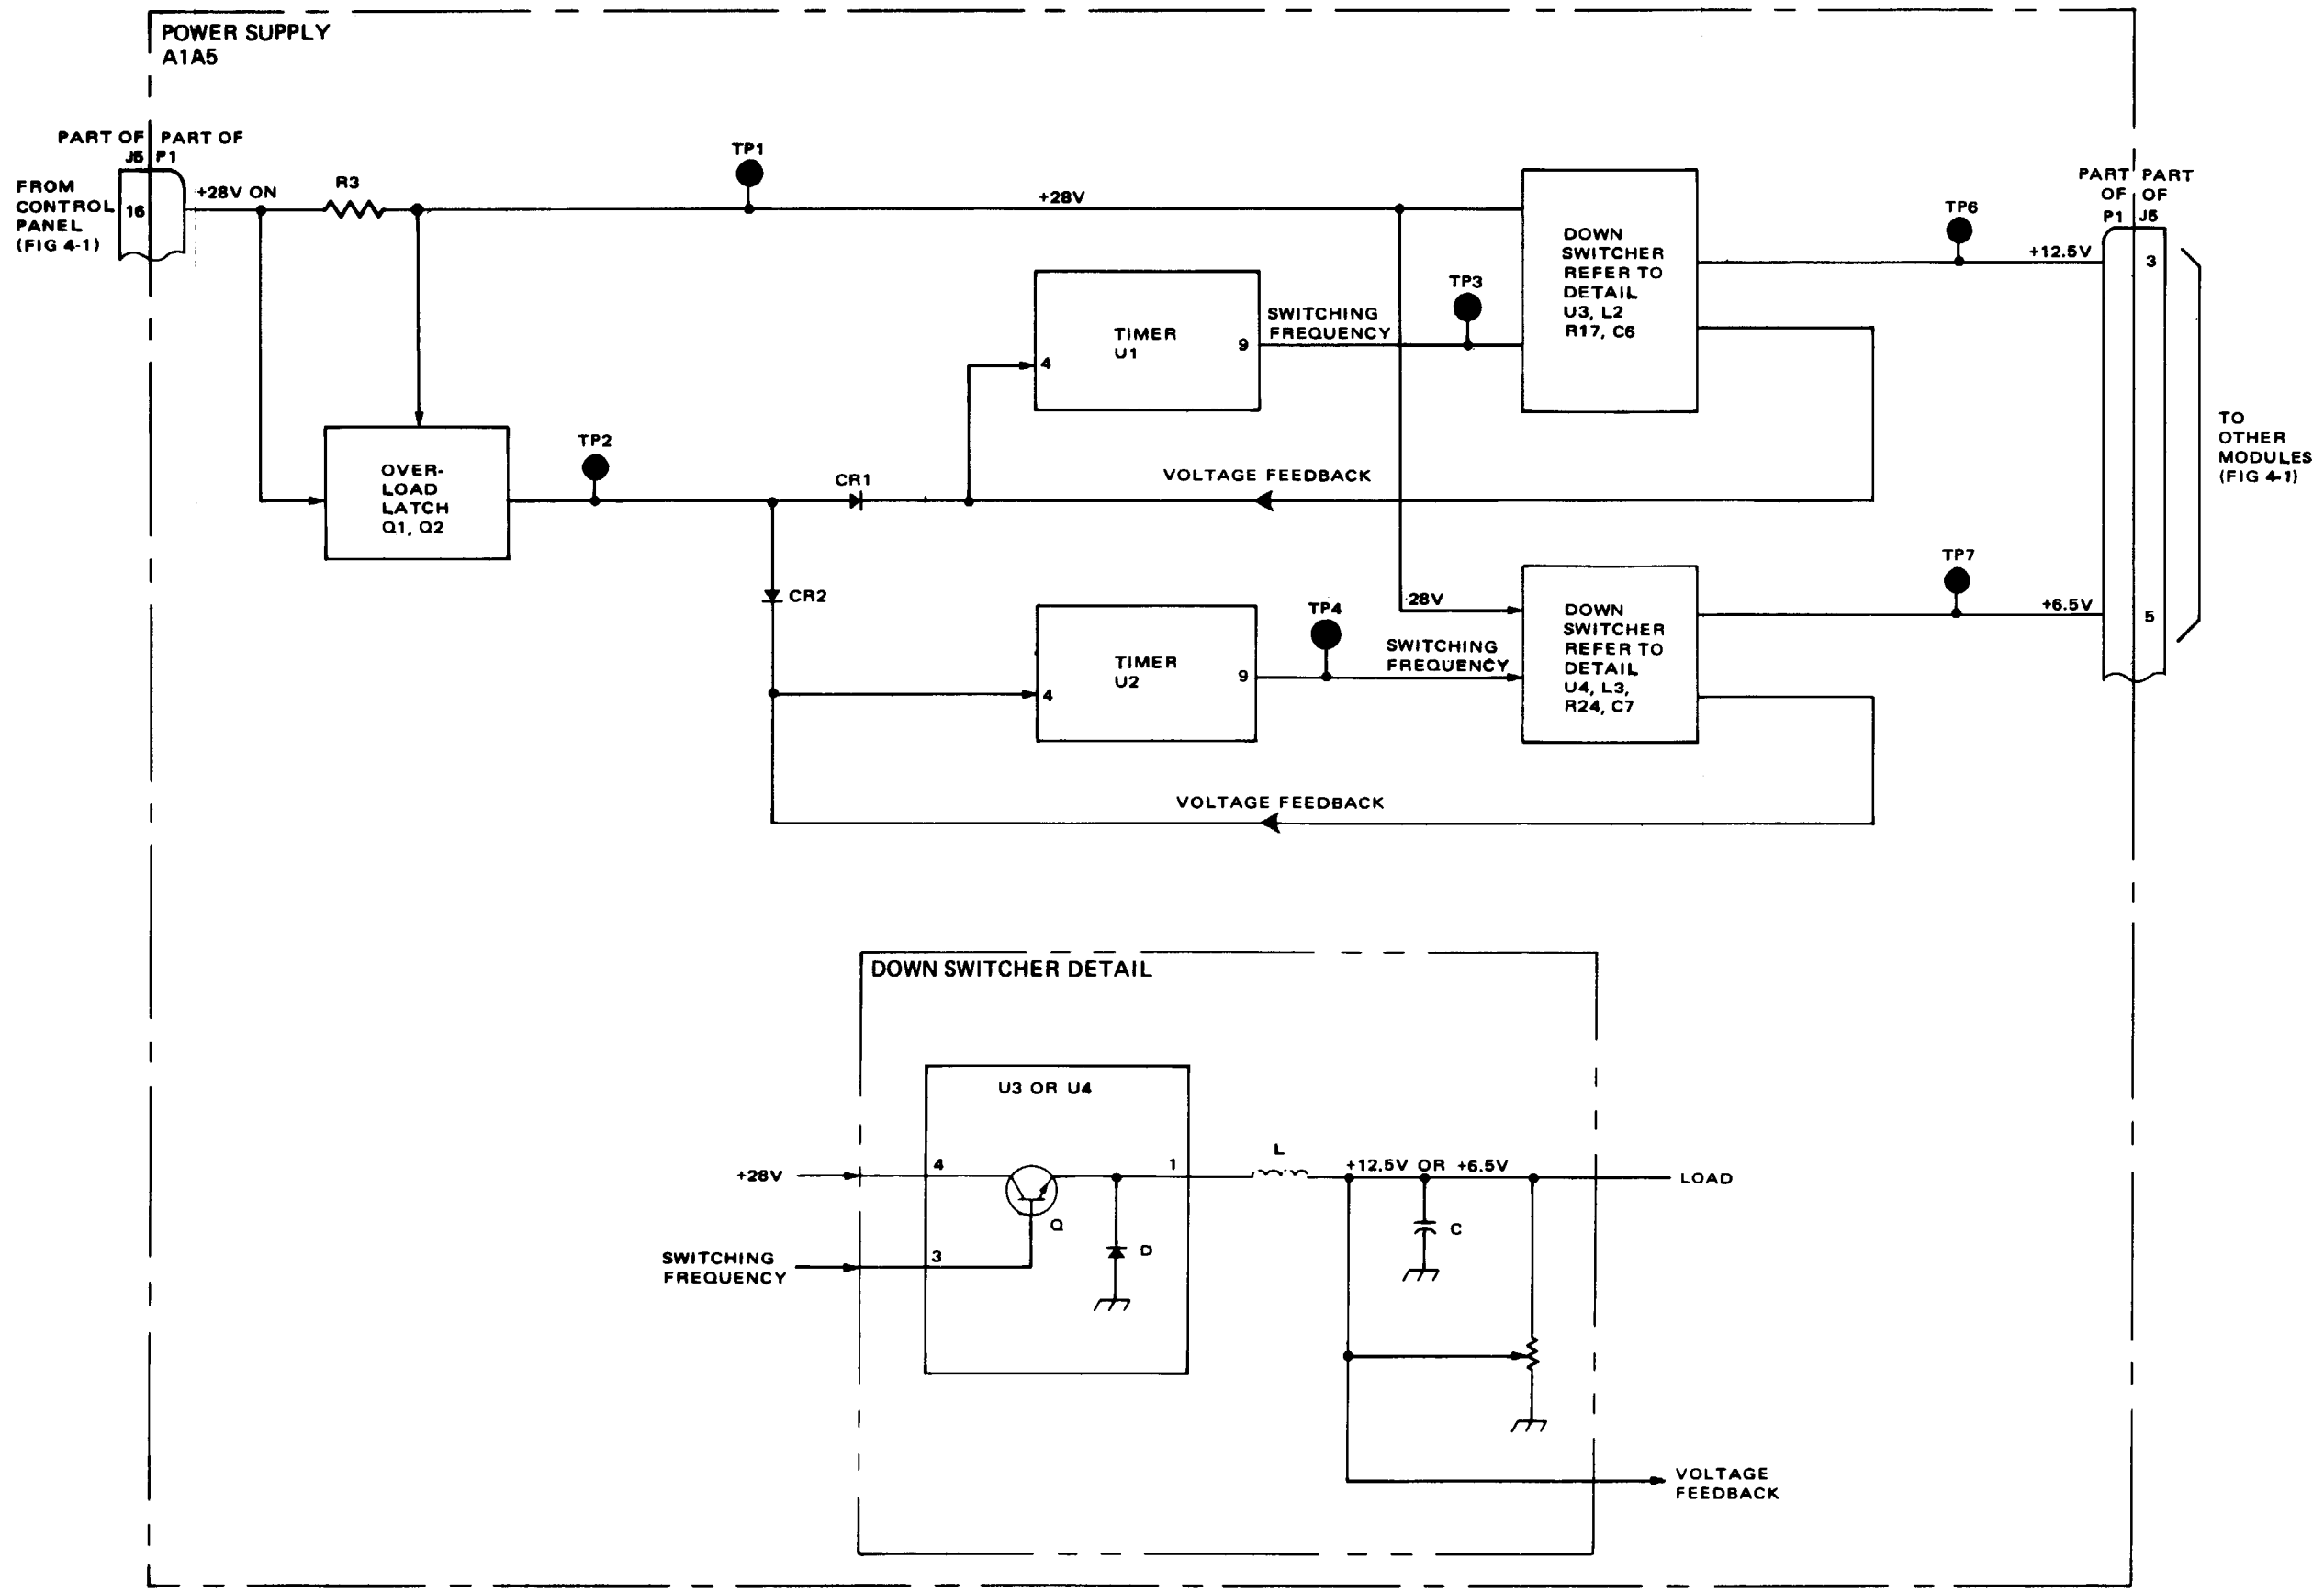

Figure 2-11. Power Supply A1A5 Functional Block Diagram
2-104. POWER SUPPLY (Figure 2-11).
2-106. Down Switching. The actual conversion from +28v to +12.5v/+6.5v is performed by the down switchers U3 and U4 shown in the detail of figure 2-11. A transistor switch (Q) is driven on and off at a switching frequency of approximately 77 kHz. When the switch (Q) is closed, current flows through the inductor (L) and charges the capacitor (c). When the switch opens, the energy stored in the inductor (L) is transferred into the capacitor (C) via the diode (D). The voltage on the capacitor (C) is determined by the ratio of closed to open time of the switch (Q). The switch (Q) and diode (D) are integrated parts of switching regulators U3 or U4. The other elements are discrete.